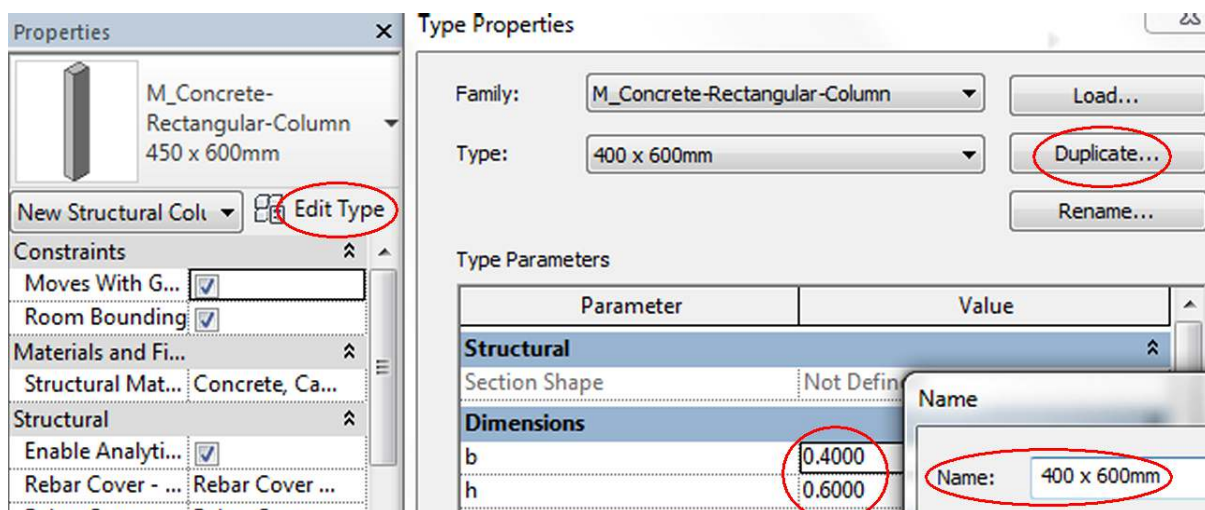

Fig. 2.1 – Edit Column type
8. In Properties palette → Type selector → select Type = M\_Concrete- Rectangular -Column : 450 x 600 mm (Fig. 2.1).